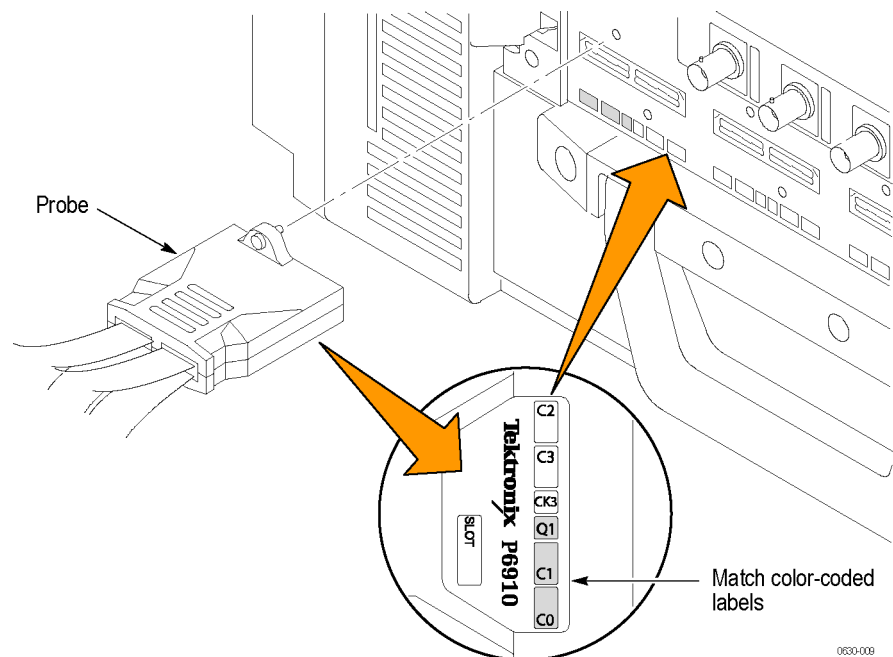

Figure 3: Connect the probe to the logic analyzer
1. Match the color-coded labels of the probe to the same color-coded connector on the logic analyzer. (See Figure 3 on page 7.)